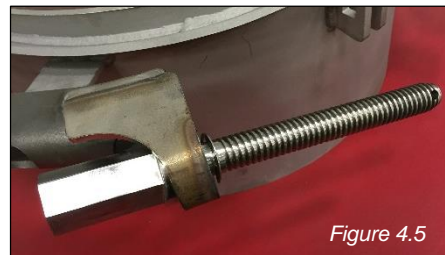

Figure 4.5
5. The strap screw should be replaced if it is visibly bent. The threads of the screw should be clean and lubricated. If the threads become slightly galled or flared, it is permissible to run a flat file over the threads. The screw hex nut wrenching surfaces should remain flat, if the corners become rounded, replace. (Figure 4.5 & 4.6)